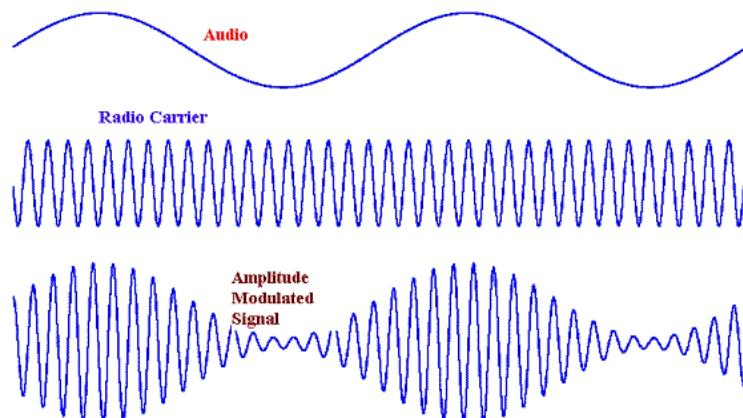

Figure 1: Amplitude modulation
Amplitude modulation (AM) refers to modify the amplitude of a carrier signal to convey the information in a wireless system. For example, the amplitude of a radio carrier is varied in Figure 1 according to the audio signal which gives the amplitude modulated signal. From a broadcast station, generally, AM signals are transmitted and to listen to that certain station, an AM receiver system is required.